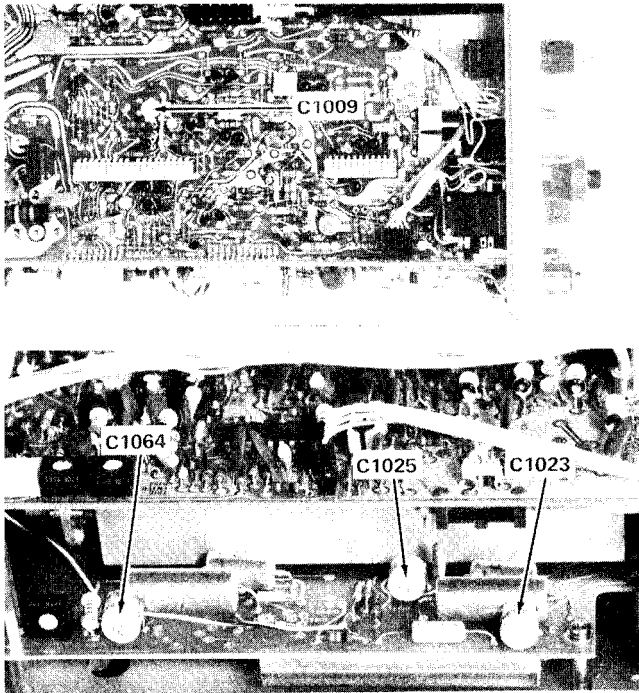

Fig. 5-25. Location of A and B Sweep timing adjustments.
d. ADJUST-C1064 (see Fig. 5-25) with a low-capacitance screwdriver, for 1 time marker/division.
g. ADJUST-C1023 (see Fig. 5-25) with a low-capacitance screwdriver, for 1 time marker/division.
- d. ADJUST-C1025 (see Fig. 5-25) with a low-capacitance screwdriver, for 1 time marker/division.
- n. ADJUST-C1009 (see Fig. 5-25) with a low-capacitance screwdriver for 1 time marker/division.